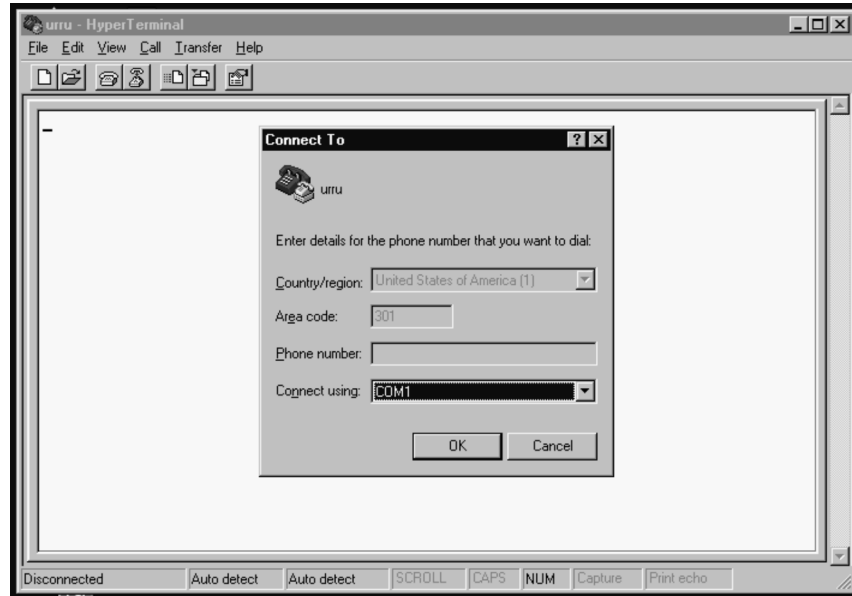

Figure 74: Connect To window
- d. Select **COM1** from the *Connect Using* pull-down list (see Figure 74). (Select **COM2** is you want to use that port.)